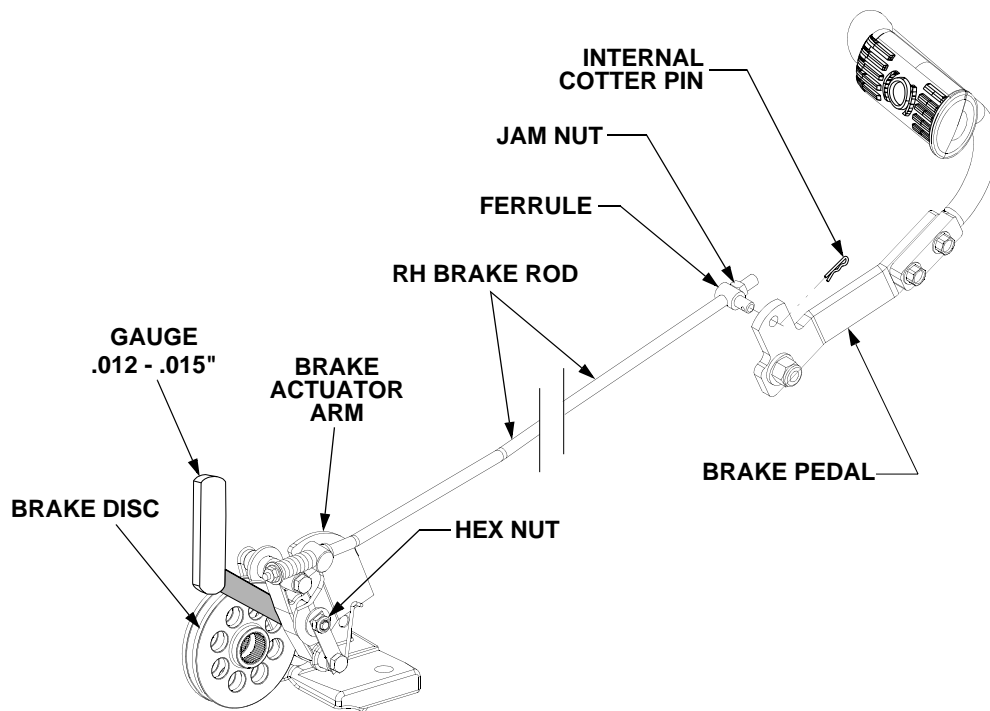

Figure 30
- From beneath the RH running board, remove the internal cotter pin to disengage the brake rod ferrule from the brake pedal. Position the brake rod to make certain there is no pull on the brake actuator arm. See Figure 30.
puck and the brake disc. The gap should measure between .012 and .015". See Figure 30.